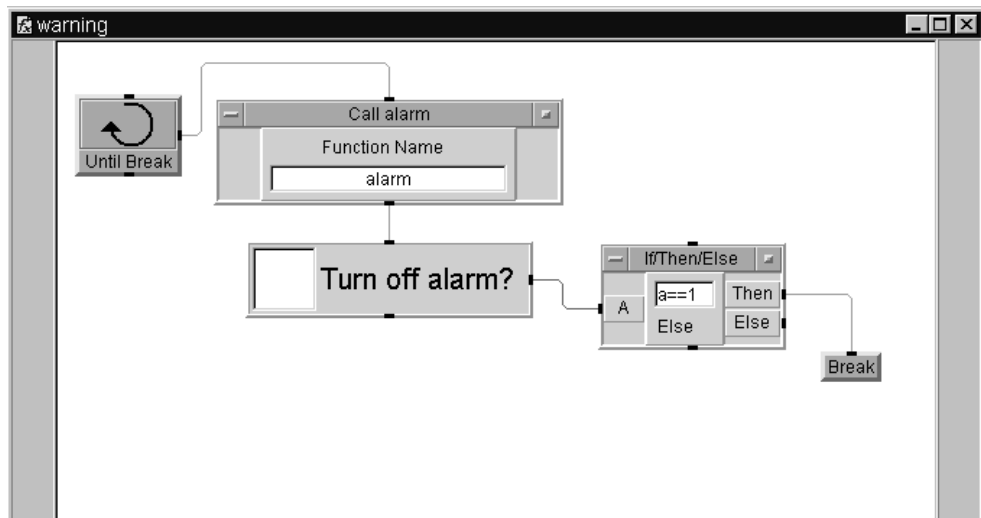

Figure 243 The Warning UserFunction (Detail View)
- 19 Select **Flow** \Rightarrow **Repeat** \Rightarrow **Break** and connect it to the **Then** output on the **If/Then/Else** object, as shown in Figure 243.